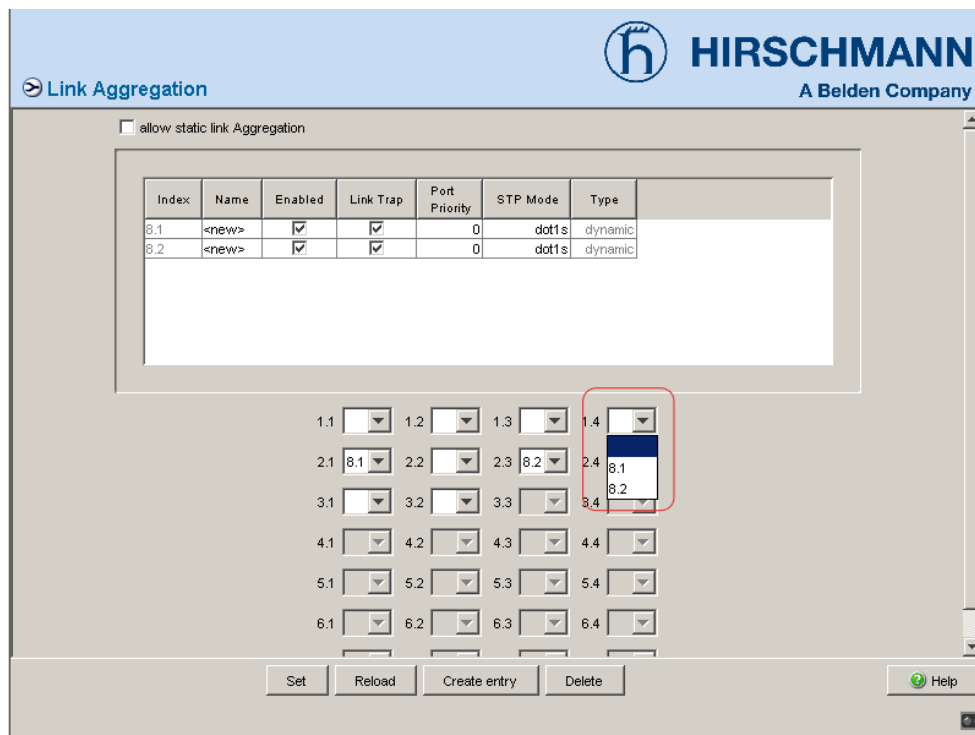

Fig. 4: Selecting ports
- Select on the ports participating in the link aggregation the index of the link aggregation connection which the port is to be a part of (see Fig. 4).